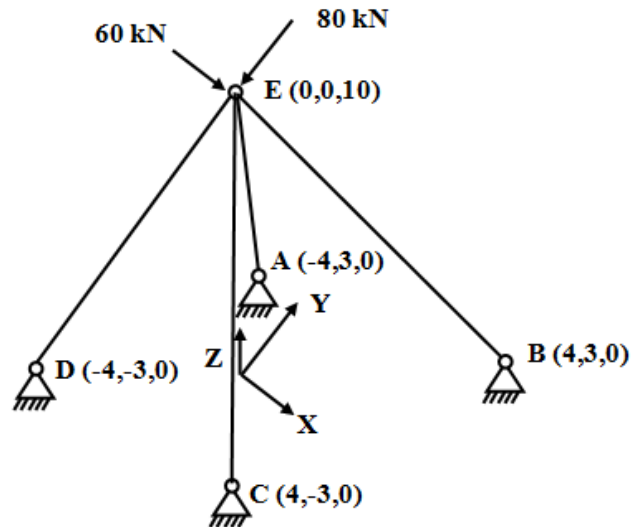

Figure: 4
- Q – 5** Analyse the space truss shown in **Figure 4** using stiffness method member approach. [14]